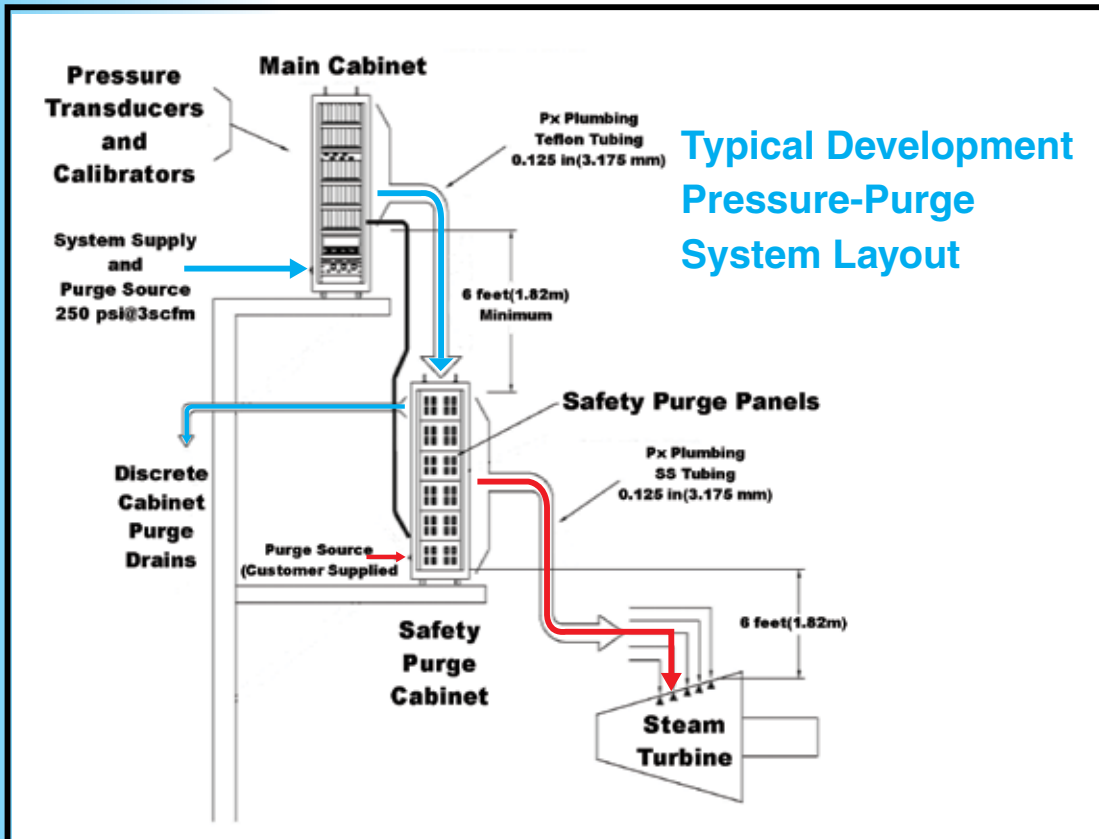

Figure 1
**Purge mode:** All lines are purged directing purge air to the steam turbine. Purge pressure is used to prevent moisture from making contact with the sensors. If electrical power is lost, the system will default to this mode. (See Figure 1 for system in purge mode.)
Figure 1 shows a typical system layout. The safety purge cabinet should be located above the measurement points. The measurement system (main cabinet) should be mounted 6 feet (1.8 meters) or more above the safety purge system. Gravity thus assists in keeping condensation from the pressure sensors.